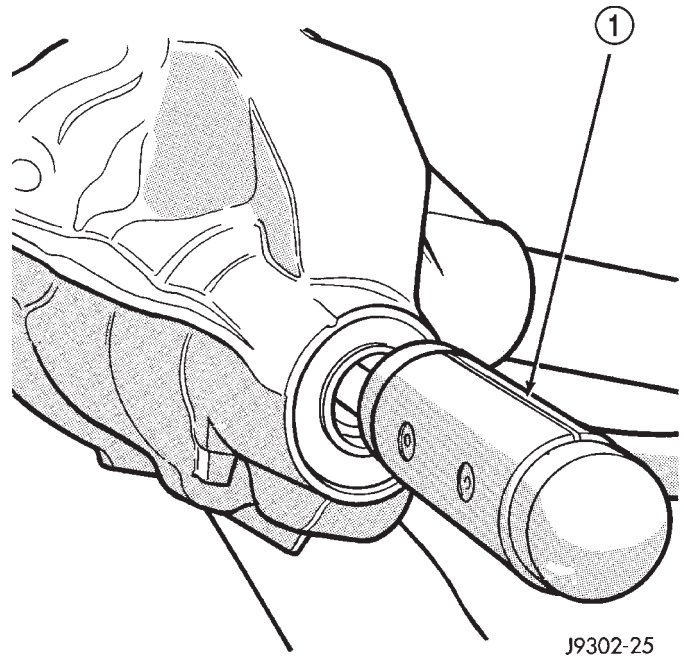

Fig. 39 Remove Pinion Gear
(6) Remove the pinion gear and preload shims from housing (Fig. 39). Catch the pinion with your hand to prevent it from falling and being damaged.